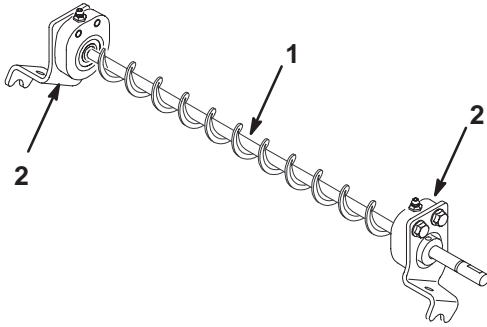

Figure 2
- Roller brush bracket assemblies must be removed and mounted to opposite ends of brush shaft (Fig. 2).